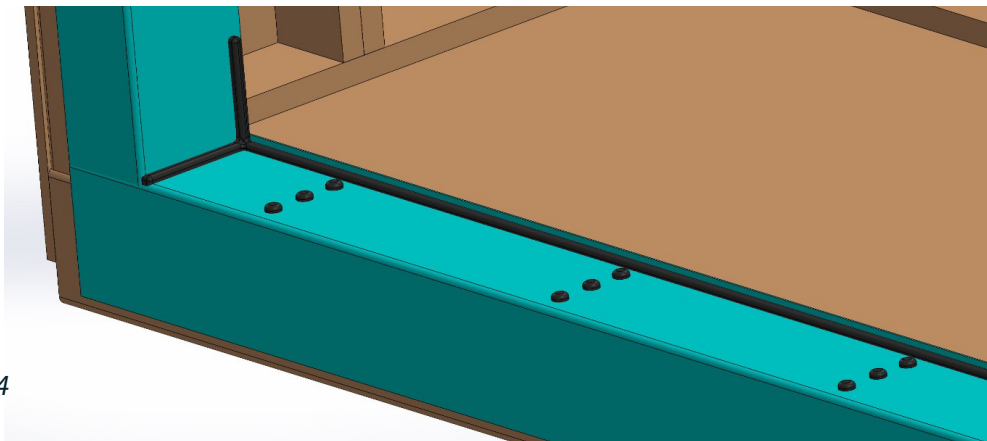

Figure 4
Note: If you choose to drill the anchor holes into the concrete while the sill assembly is still in place, you must vacuum the debris from the top of the sill as well as from below to ensure that the caulking and or roller assemblies do not get contaminated. Figure 4
11. With the sill assembly removed, and clean from debris, apply a 1/2" bead of sealant to the floor from jamb to jamb along the exterior edge of the mark previously applied to the floor. The sealant should be applied in a U-shape to ensure a proper and complete water-barrier has been accomplished across the full width of the sill opening, and at least 6" up each side. (See Figure 4)